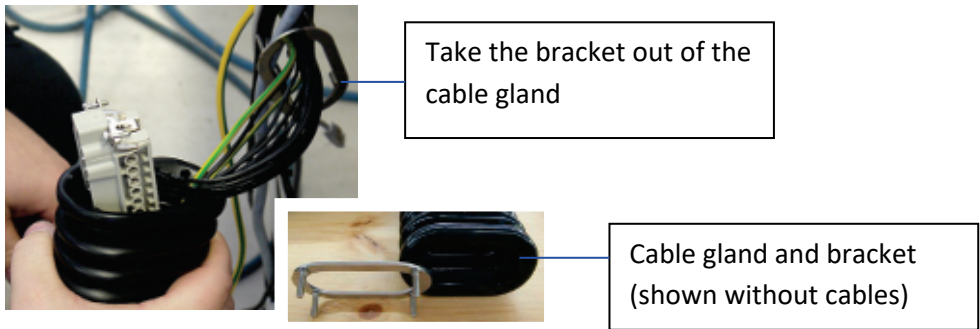

Fig. 53: Take the bracket out of the cable gland
4. Take the bracket out of the cable gland (with the cables still inserted). Later, the cables will be pulled out of the cable gland but the bracket will remain on the cables (see Fig. 53).